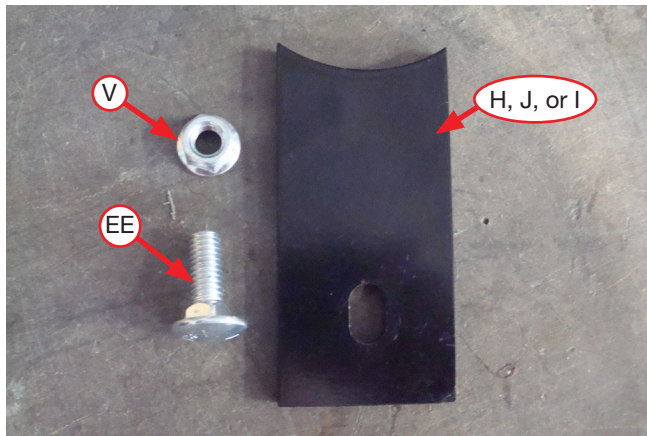
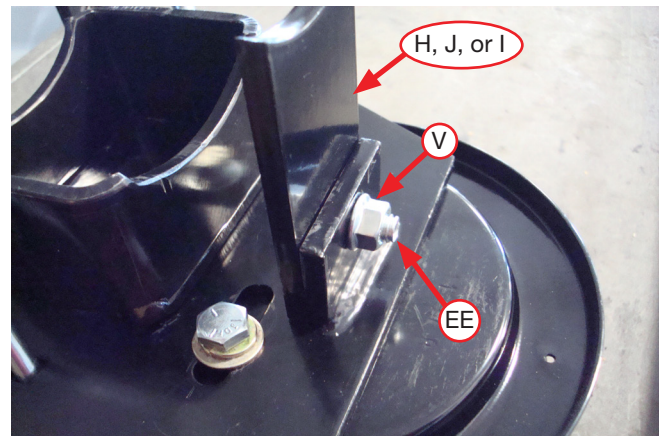

Fig. 15
Fig. 16
7. Select the appropriate lower leg adapter (H, J, I) for your vehicle, as shown in Table 1. Attach the appropriate adapter with a 3/8"-16 x 1" carriage bolt (EE) and 3/8" serrated flange lock nut (V) (Fig. 15). Install as shown (Fig. 16). Push adapter against the lower bracket and torque the hardware to 16 lb.-ft. (14Nm).